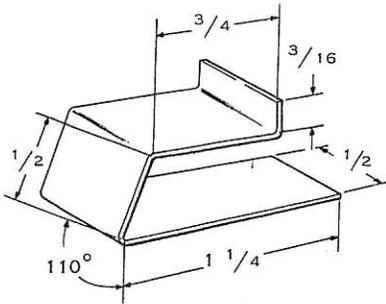

FIG. 41— Suction Valve Clip
8. Insert the discharge valve cage bolt, with washer, through the inner valve seat and the discharge valve cage. Hold the bolt on the flat steel secured in a vise as shown in Fig. 41 and begin to tighten the nut.
In order to remove and replace suction valves, it is necessary to use two valve clips. These clips may be obtained from the factory, York Part No. 064-28630 or can be fabricated in the field as shown in Fig. 41.